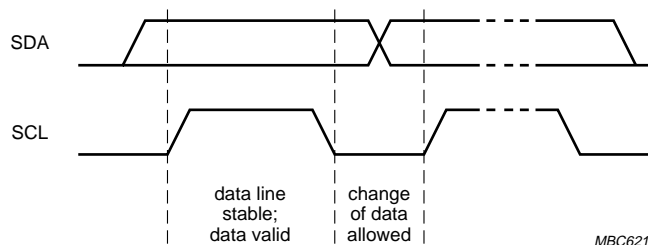

Fig.12 Bit transfer.
**8.1 Bit transfer** (see Fig.12)